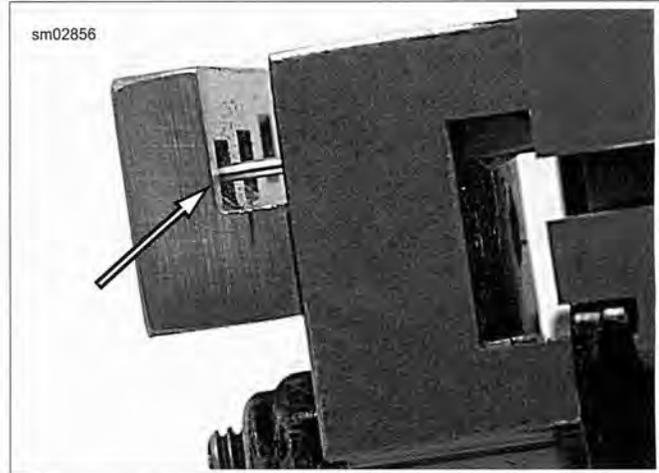

Figure A-51. Pin Terminal against Pin Locator Bar
- b. **Pin Terminal:** See Figure A-51. The tip of a pin terminal passes through the socket locator bar and stops in the notch in the face of the pin locator bar.